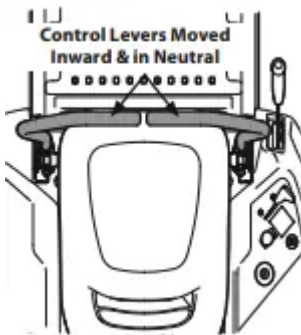

Figure 18
2. Move the RH and LH lapbar drive control levers inward in the neutral position which also disengages the parking brake. Refer to Figure 18. Note: Lapbar drive control levers must be moved fully inward before pushing forward or backward to ensure brakes are fully disengaged. Parking the tractor on uneven terrain or a hill may cause the brakes to bind and not release fully. In this case the tractor will not drive when the lapbar drive control levers are moved. If this happens, move the lapbar drive control lever in the opposite direction slightly to take the load off the brakes and allow them to release fully. Note: If the lap bar drive control levers are not even in the neutral position, refer to Maintenance & Adjustments for instructions to adjust the lapbar drive control levers so that they are even.